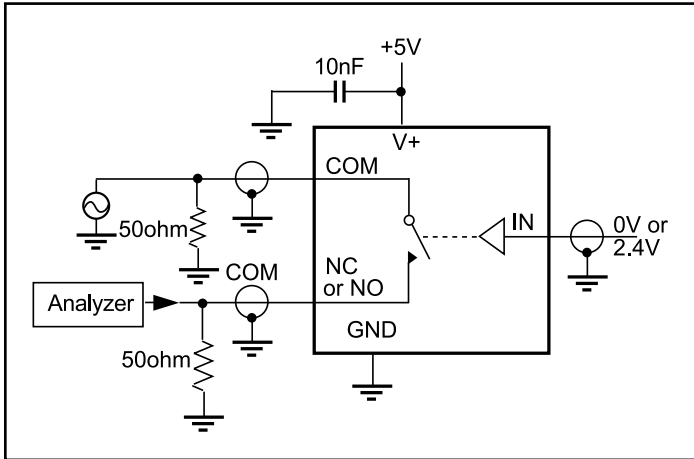

Figure 3. Off Isolation
7. Off Isolation = 20log₁₀ [V_{COM} / (V_{NO} or V_{NC})]. See Figure 3.